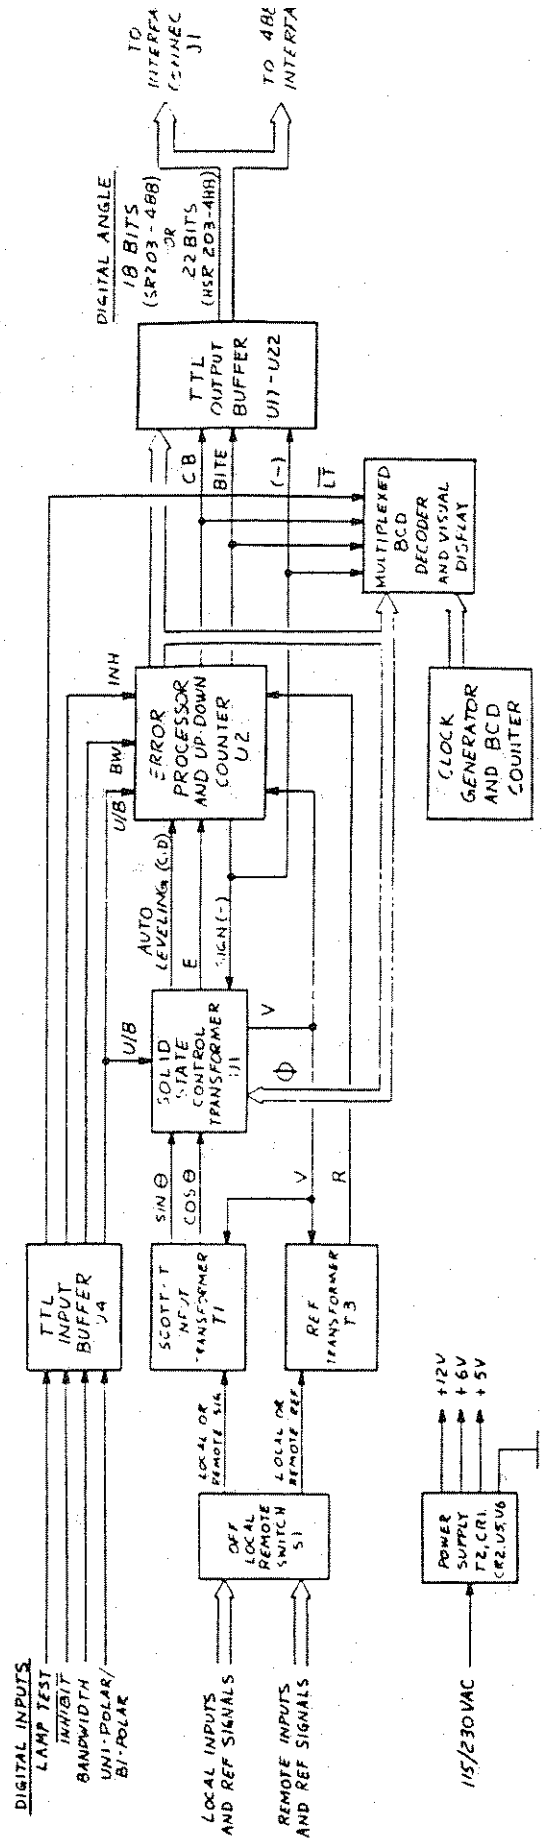

Figure 3-2. Converter Circuits, Block Diagram
3.3 CONVERTER CIRCUITS, BLOCK DIAGRAM DESCRIPTION (See Figure 3-2.)